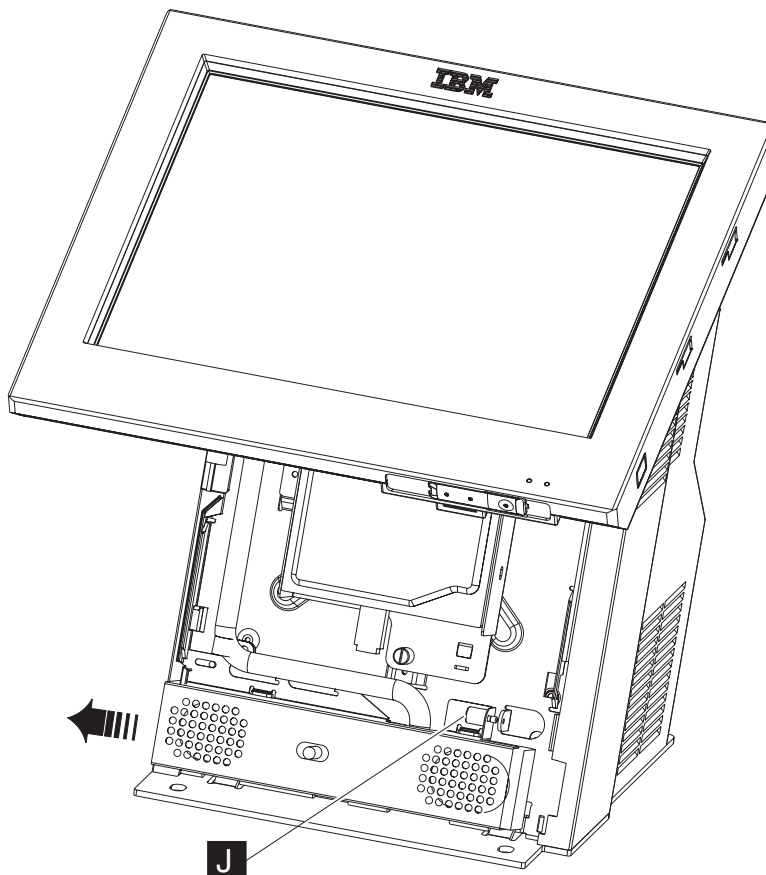

Figure 37. Removing the speaker thumbscrew
3. Loosen the speaker cover thumbscrew as shown in **J** in Figure 37.